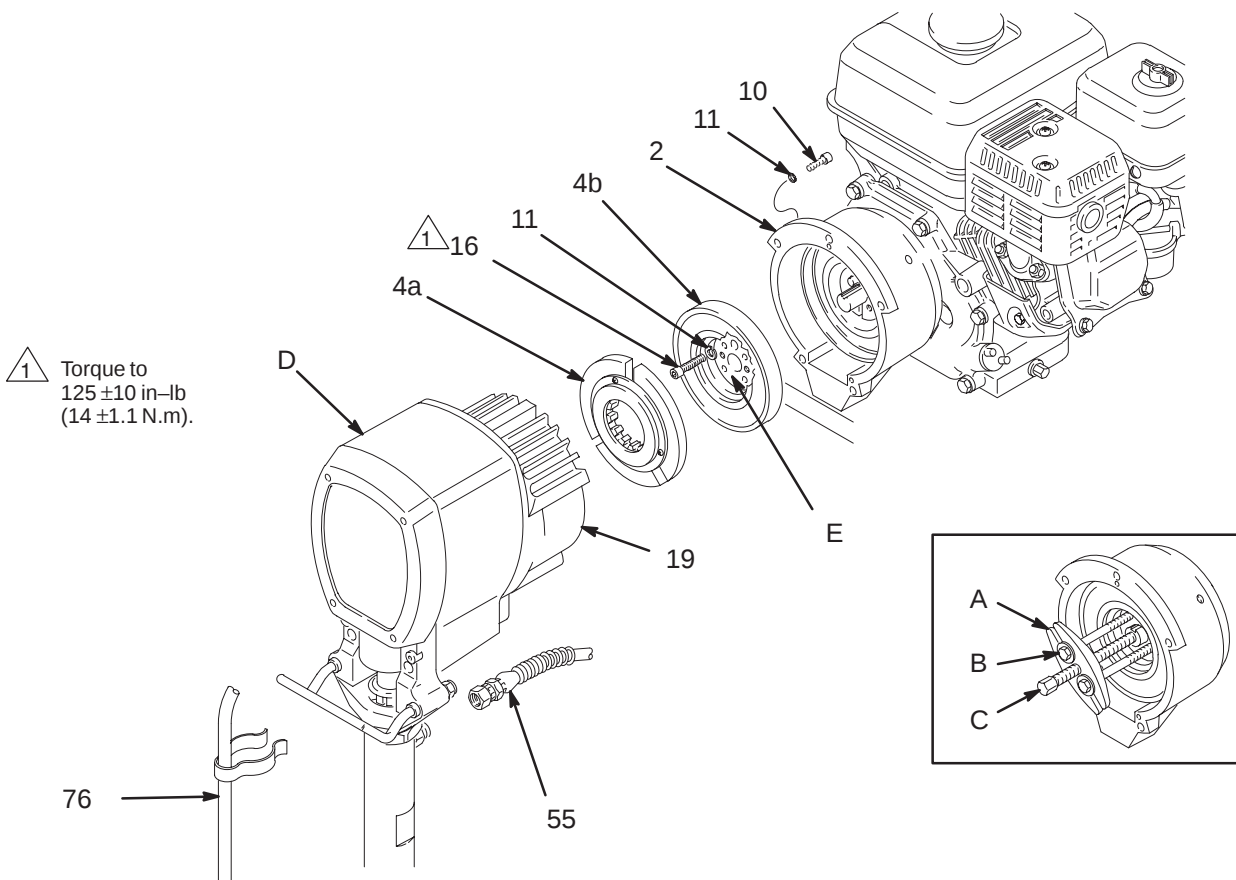

Fig. 11
NOTE: Refer to Fig. 11 for this procedure.
2. Disconnect the hose (55) from the displacement pump. Remove the spring clips and drain hose (76) from the displacement pump.
3. Remove the two bottom screws (10) and lockwashers (11) first, then remove the two side screws (10) and lockwashers (11), and last remove the top screw (10) and lockwasher (11).
4. Tap lightly on the back of the bearing housing (21) with a plastic mallet to loosen the assembly (D) from the clutch housing. Pull the assembly away.
- a. Remove the four socket head capscrews (16) and lockwashers (11). Install two of the screws in the threaded holes (E) in the rotor. Alternately tighten the screws until the rotor comes off. See Fig. 11. If the rotor is difficult to remove, use procedure b.
- b. You can use a standard steering wheel puller (A). However, two 1/4-22- x 3 or 4 in. long screws (B) are also needed. Replace the short screws of the steering wheel puller with the longer screws (B). Turn the screws (B) into the threaded holes (E) of the rotor (4b). Tighten the capscrew (C) of the tool until the rotor comes off. See the Detail in Fig. 11.